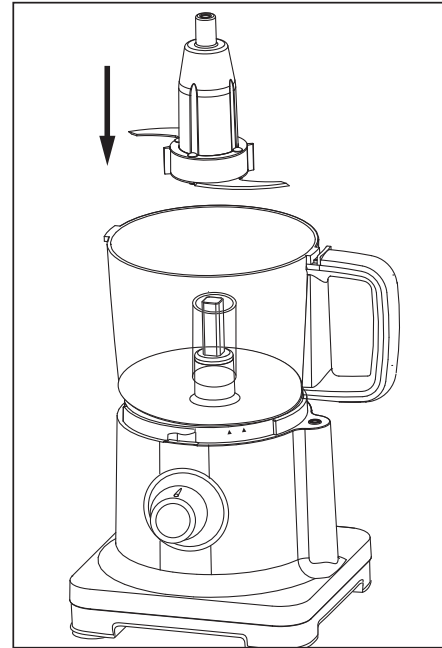

Figure 3
- 2 Grasp the chopping blade by its stem and slide it onto the center post. (Figure 3).